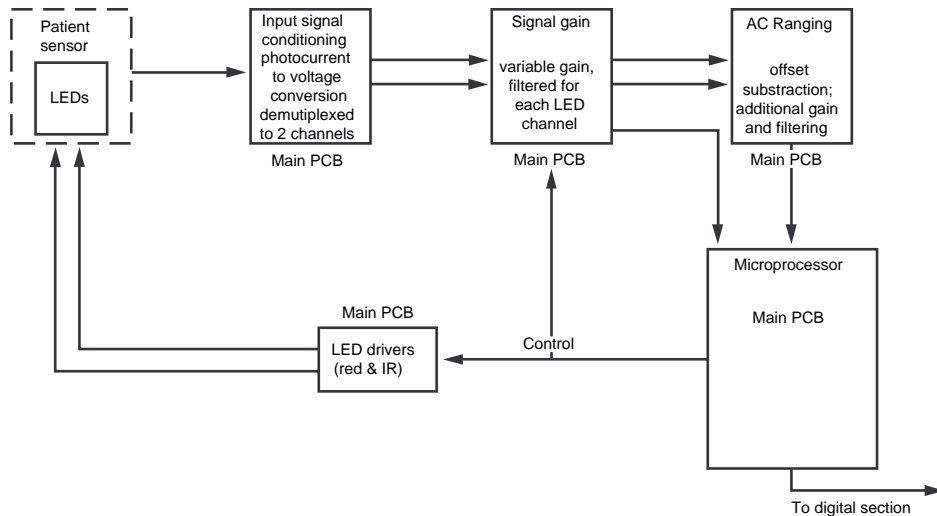

Figure 9-3: SpO₂ Analog Circuitry Block Diagram
9.6 SpO₂ Analog Circuitry Block Diagram (Figure 9-3)
Analog circuitry has high signal sensitivity and reduced susceptibility to noise. Its design allows for a wide range of input signal levels and a broad range of pulsatile modulation. The SpO₂ analog circuit (Figure 9-3) consists of four subsections:
This subsection describes the SpO₂ analog hardware. The analog circuitry has high signal sensitivity and reduced susceptibility to noise. Its design allows for a wide range of input signal levels and a broad range of pulsatile modulation. The SpO₂ analog block diagram (Figure 9-3) consists of four subsections: